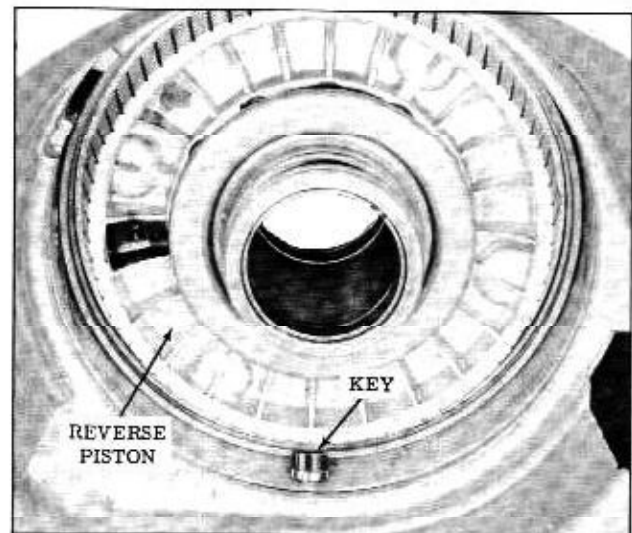

Fig. 3-102 Stationary Cone Key
7. Install reverse stationary cone key into case (rounded side up). (Fig. 3-102)